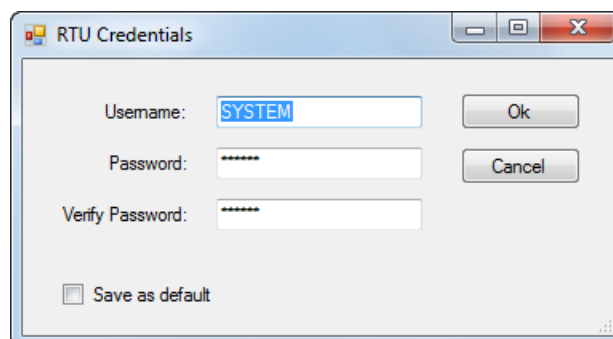
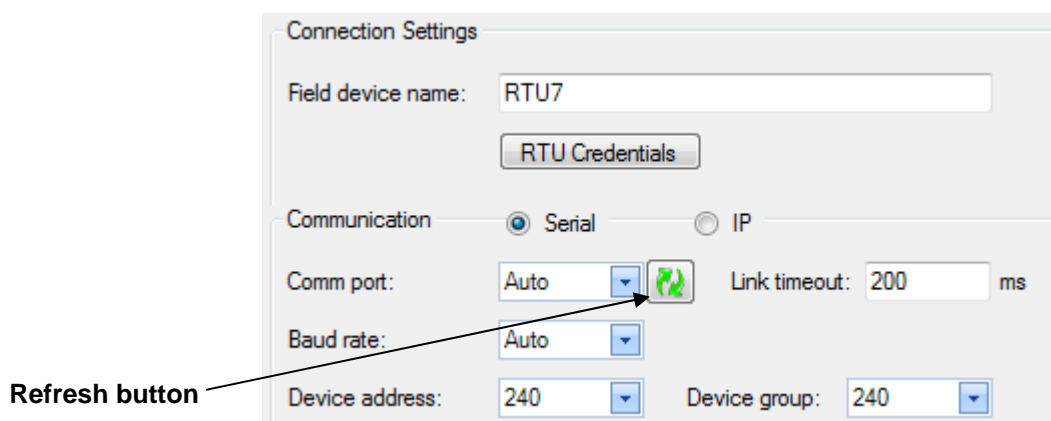
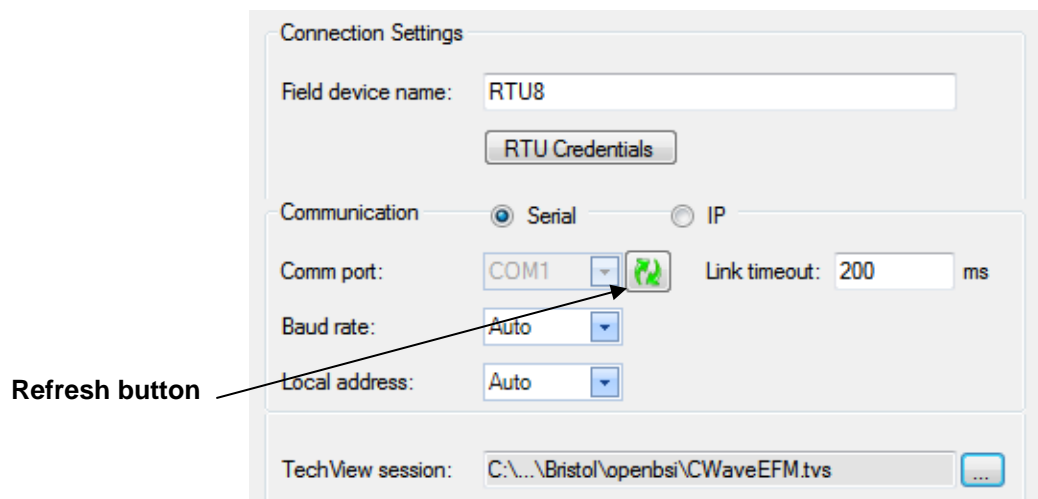

Figure 3-10. RTU Credentials dialog box
Figure 3-11. Serial Connection Settings - ROC/FloBoss
Figure 3-12. Serial Connection Settings – ControlWave/33xx
5. For an RTU or flow computer, if you want to define a default username/password combination for this device click **RTU Credentials** in the New Connection page (see *Figure 3-11* or *Figure 3-12*) to open the RTU Credentials dialog box (see *Figure 3-10*). In the RTU Credentials dialog box, enter a valid **Username** and **Password** combination for access to this controller / flow computer, and re-enter the password in the **Verify Password** field; this username/password combination will be used for this controller/flow